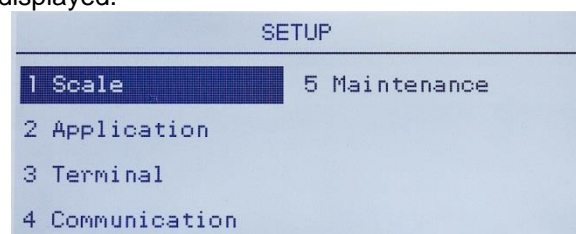

Figure 3-18: Setup Menu – Reset
1. Press the MENU key and then select the Setup icon . Figure 3-18 shows the first page of the setup menu, with the five main branches displayed.